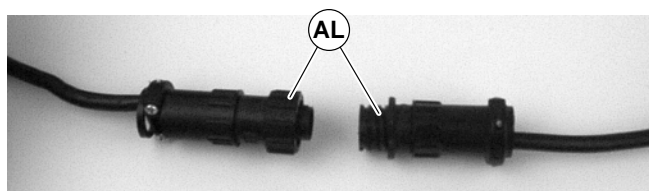

Figure 19
3. For DC variable speed motor, unplug motor cord at disconnect (AL of Figure 19).